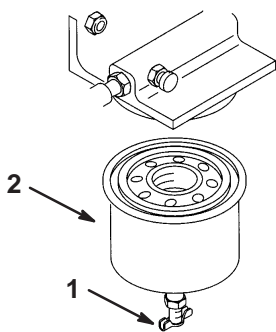

Figure 31
4. Open the drain valve (Fig. 31) and drain the fuel from the fuel filter into a suitable container and dispose of it properly.
- Remove the fuel filter with a filter wrench (Fig. 31).